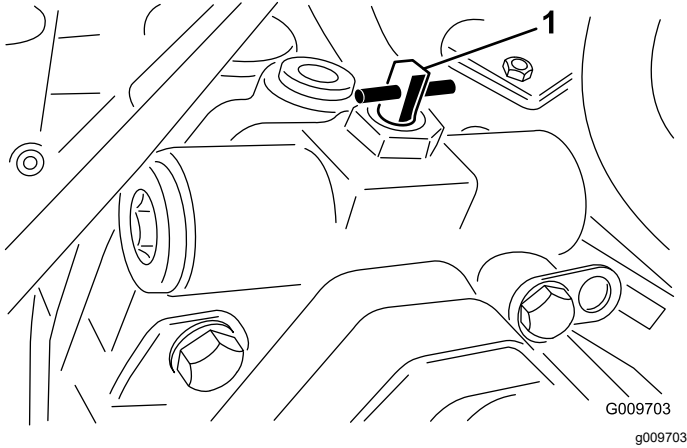

Figure 41
3. Rotate the bypass valve 90° (1/4 turn) in either direction to open it and allow fluid to bypass internally (Figure 41).
2. Rotate the bypass valve 90° (1/4 turn) in either direction to open it and allow fluid to bypass internally (Figure 41).